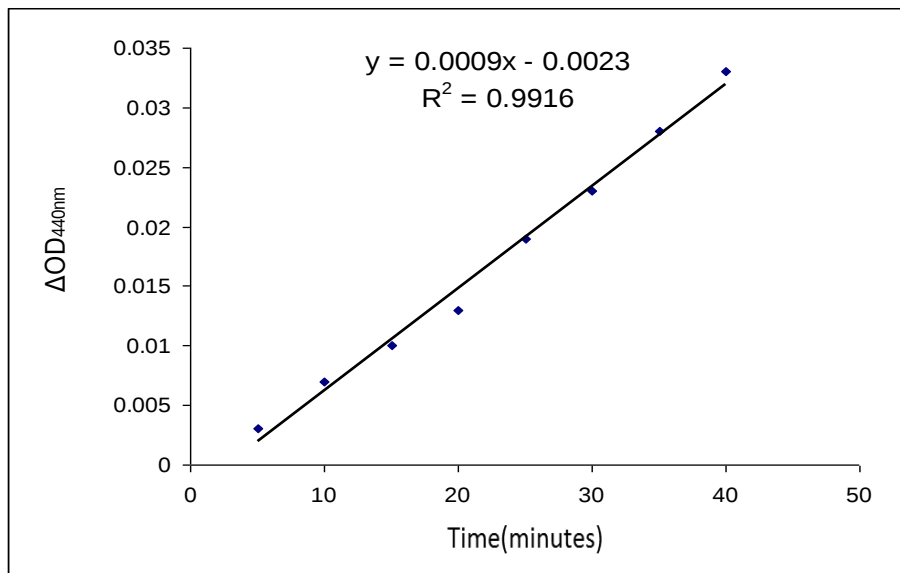

Figure.2 The change in absorbance ΔOD_{440nm} of diluted MDH positive control during the indicated time at 440nm.
1. Determine the change in absorbance $\Delta OD_{440nm}/min$ by plotting the absorbance value at ΔOD_{440nm} as a function of reaction time to obtain the slope of the linear portion of the curve, as shown in Figure.2.